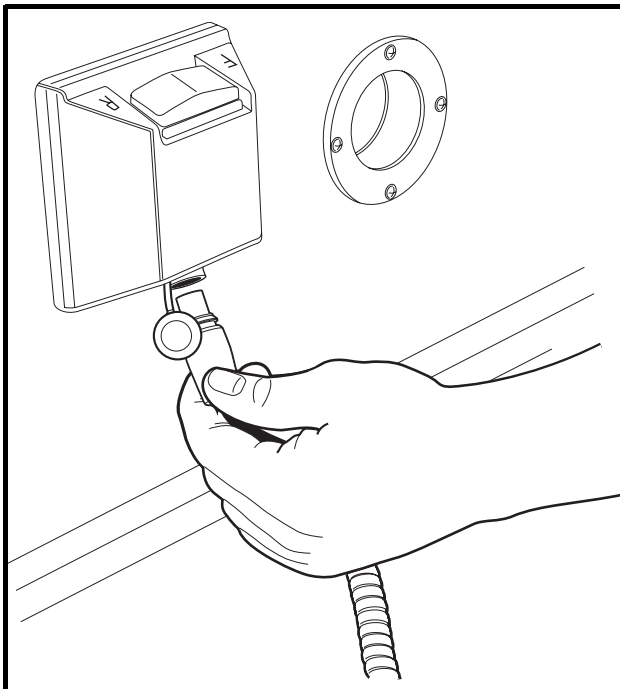
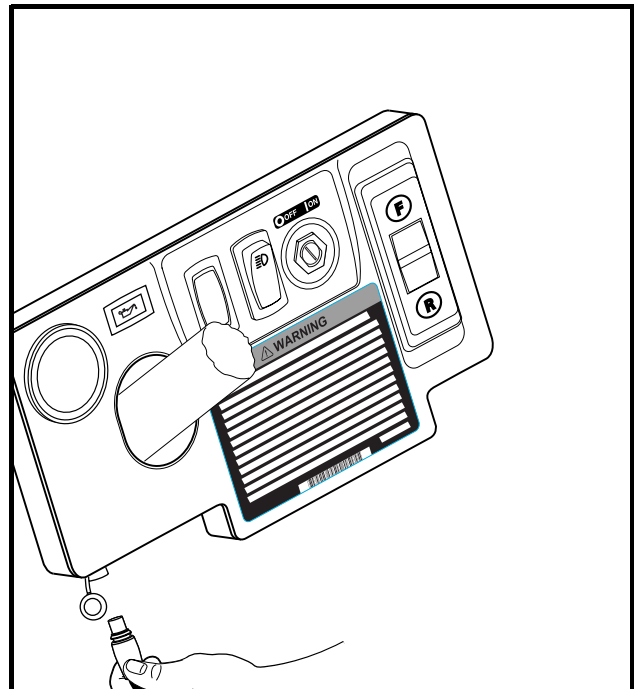

Figure 22-1 IQDM Jack On F&R Switch Housing
Figure 22-2 IQDM Jack Under Instrument Panel
3. Find the IQDM jack on the vehicle (**Figure 22-1, Page 22-1 or Figure 22-2, Page 22-1**).